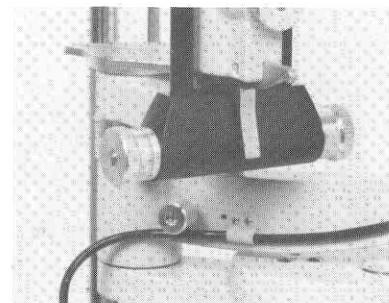

Fig. 33
(5) Adjust the slit width.
Rotate one of the two slit width adjusting wheels⑩ which will produce continuously variable changes in the width of the slit image, from 0 to 9mm. At 9mm, however, the slit will simply become a circular patch of light. (See Fig. 33)